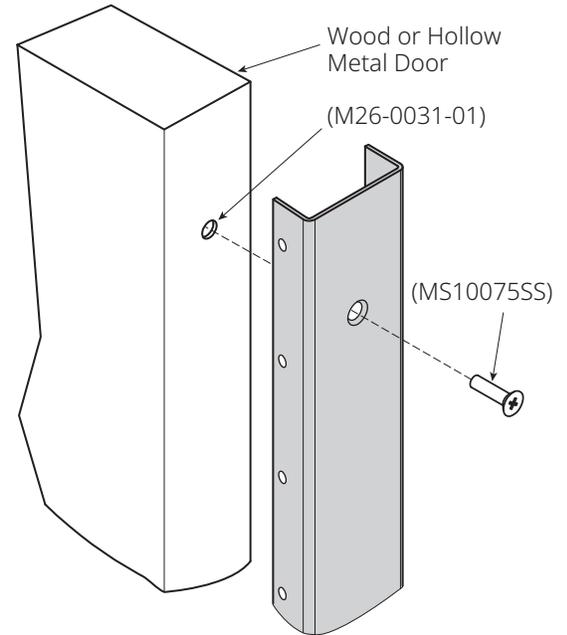

Fig. 3
- a. Install #10-32 x 3/4" machine screws (MS10075SS) into top & bottom Adjust-a-Screws first, then close door to check alignment (Fig. 3).